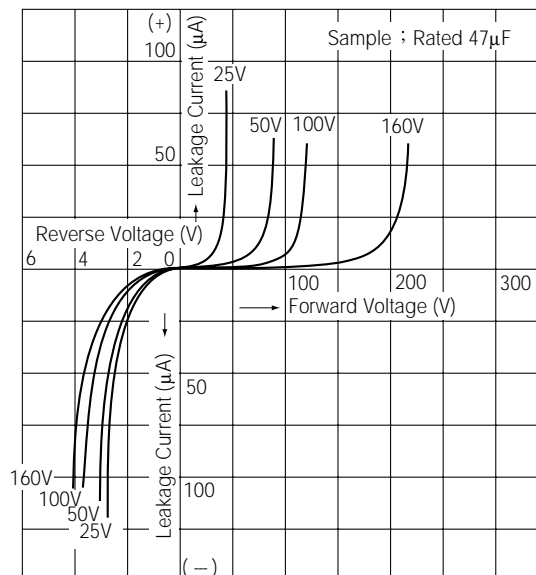

Fig. 2-2 V - I Characteristics (Voltage - Current Characteristics)
The relationship between the voltage and leakage current when voltage is applied to the aluminum electrolytic capacitor is shown in Fig. 2-2. From Fig. 2-2, the followings can be said;
As Fig. 2-2 shows, the leakage current rises sharply when voltage above the rated voltage is applied. When the withstand voltage of the anode foil decreases due to the generation of heat and the anode foil undergoes insulation breakdown, a large amount of current will flow through and cause the internal pressure to rise within a short period of time. If the pressure relief vent is activated, the electrolyte that has changed to gas is vigorously released from the opened vent. The energy of the capacitor is proportional to the second power of the voltage ($J = \frac{1}{2} CV^2$). Therefore, the higher the applied voltage, the more severe the condition of the activated vent, and the more likely that a short between the foils will occur. Please use capacitors within their rated voltage.
As (Fig. 2-2 V-I Characteristics) shows, the aluminum electrolytic capacitor does not have withstand voltage in the reverse direction. Therefore if the capacitor is used in an AC circuit, an electric current flow which is larger than that calculated from $I = \omega CE$. If the internal resistance of the aluminum electrolytic capacitor is labeled R (Ω), heat will generate due to the wattage loss $W = I^2R$ (W) according to the current. The degree of heat is large because the internal resistance of a capacitor is large; thus the pressure relief vent is activated when heat generates and causes the electrolyte to evaporate, causing the internal pressure to rise. Even bipolar capacitors (non-polar), cannot use it for continuous AC application in addition to above.